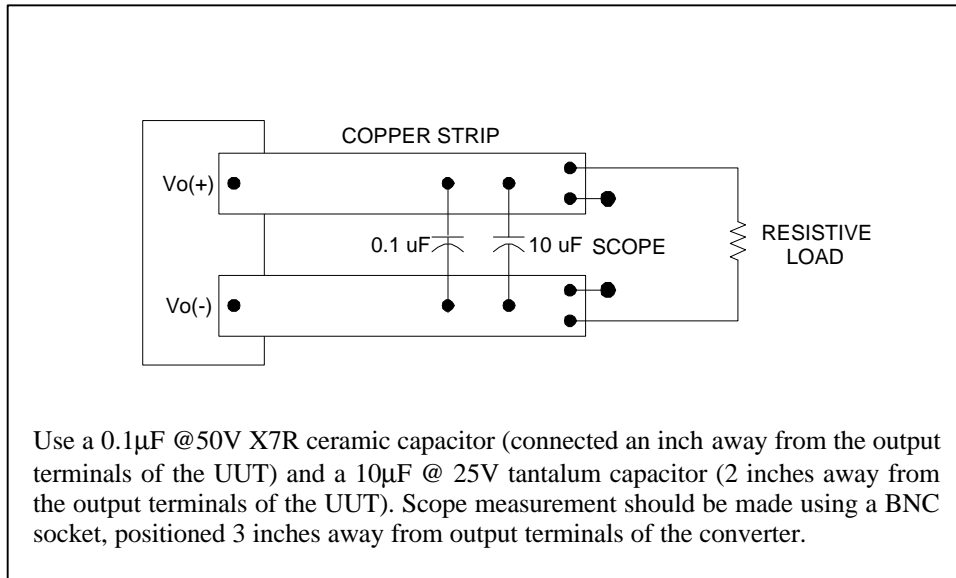

Figure 2. Peak to Peak Output Noise Measurement Setup.
4. Refer to Fig 2 for the output ripple and noise test measurement setup.